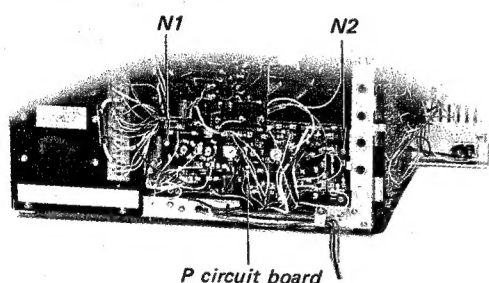

Fig. 2-16.
1. Remove the two screws labeled N1 ~ N2 in Fig. 2-16.